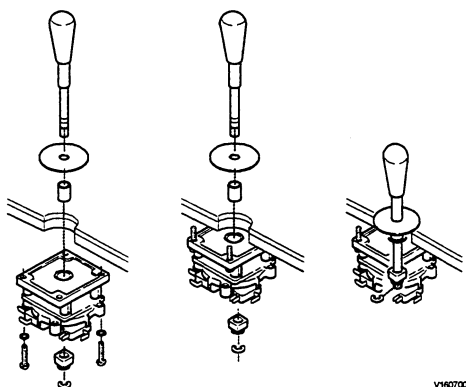

Figure 4: Joystick Installation
18. Install the joysticks on the control panel as shown in figure 4.